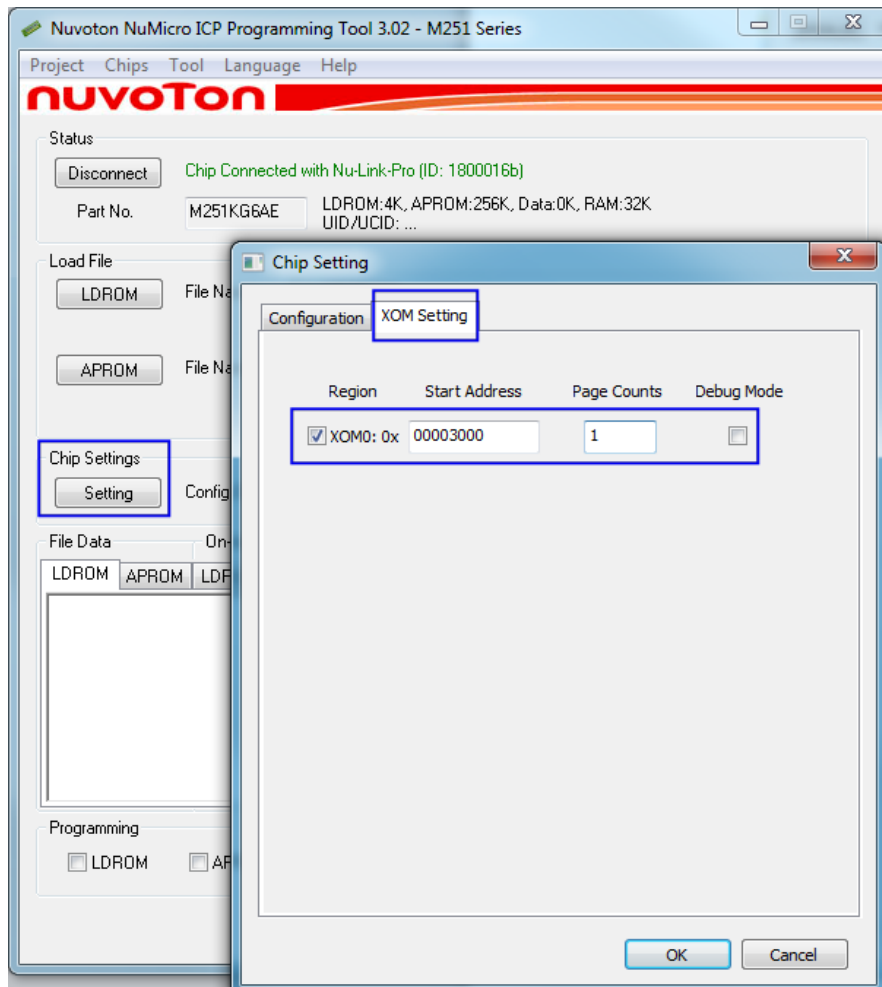

Figure 4-6 Open M251 Settings and XOM Setting
2. Click “**Setting**” button to open the “M251 Settings” page, as shown in Figure 4-6.